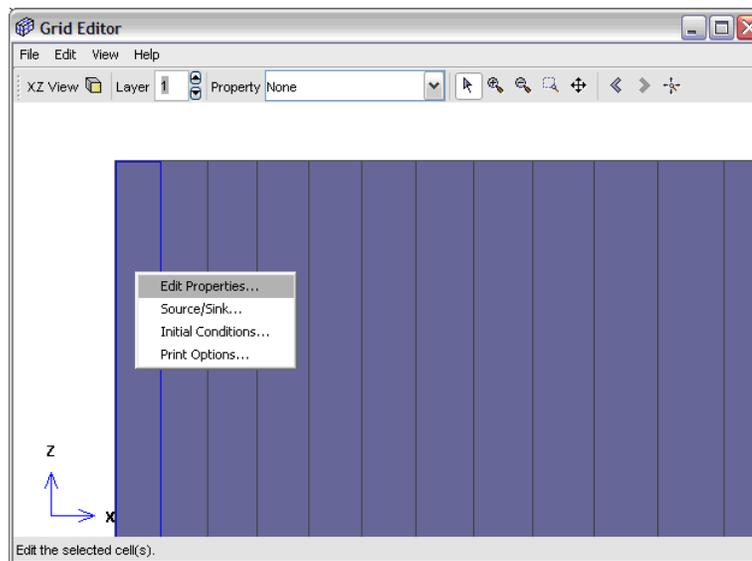

Figure 6.2. The cell to be selected
3. Using the **Selection** tool, right-click on the first cell and click **Edit Properties...**, Figure 6.2.